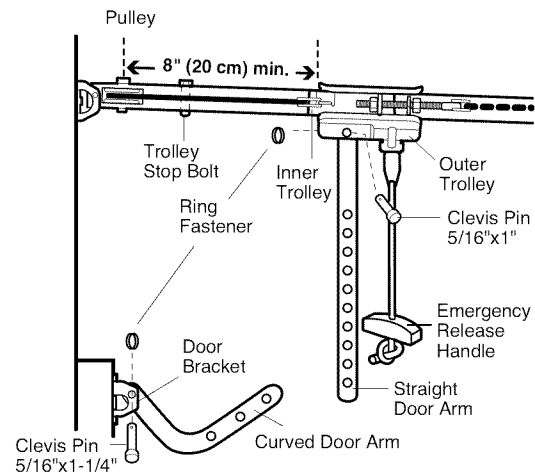

Figure 1
- Make sure garage door is fully closed. Pull the emergency release handle to disconnect the outer trolley from the inner trolley. Slide the outer trolley back (away from the pulley) about 8" (20 cm) as shown in Figures 1, 2 and 3.
• Figure 1: